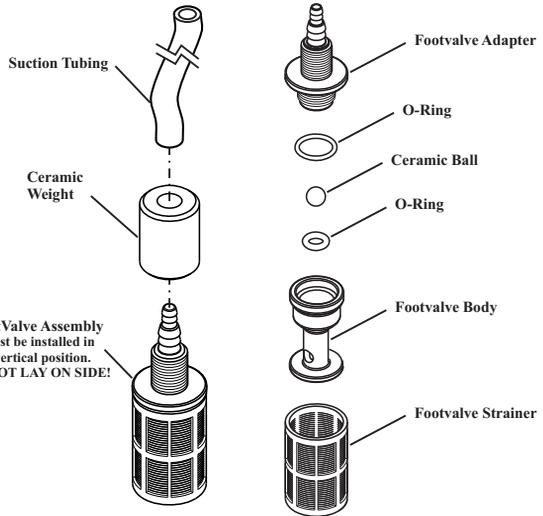

FIG. 4.7 FOOTVALVE ASSY.
- ☞ Periodically clean the suction strainer. Fig.4.7